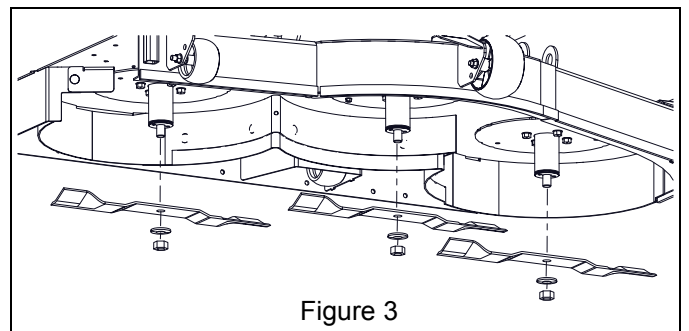

Figure 3
5. Remove three 5/8" hex nuts and washers retaining blades and remove blades. Retain blades for operation without mulch kit. Retain nuts and washers for kit installation. See Figure 3.